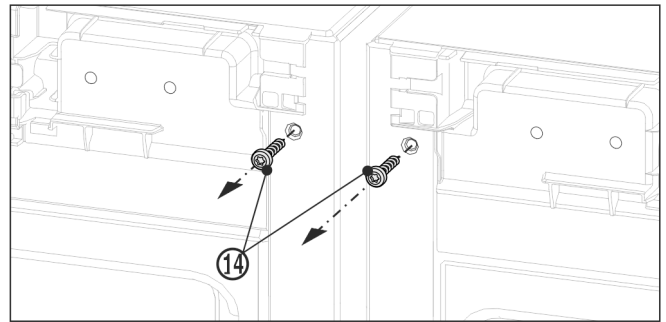

Fig. 15
- ▶ Before fitting the top bracket remove both earthing screws Fig. 15 (14).